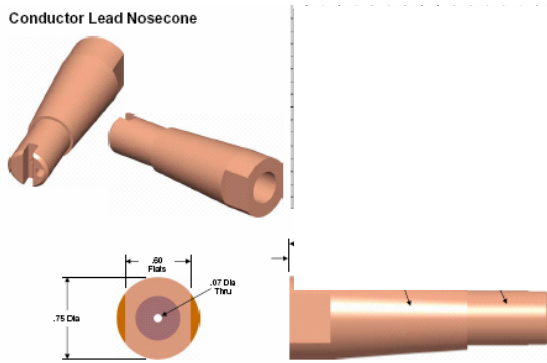

Figure 14- Cable Connector
- 6.13.3 Copper Cable Connector: Clean the copper cable connector [Figure 14- Cable Connector] using acetone-degreasing agent Scotchbrite, and clean lint free wipes. Use a wire bottlebrush on the inner bore along with the acetone. Once cleaned, do not touch the components with bare hands. Coat the threads and outside surface of the cable connector with "Microbraz". This coating will minimize the braze material from adhering to the external surfaces. Do not get any of the "Microbraz" inside of the connector since this will effect the quality of the braze joint.